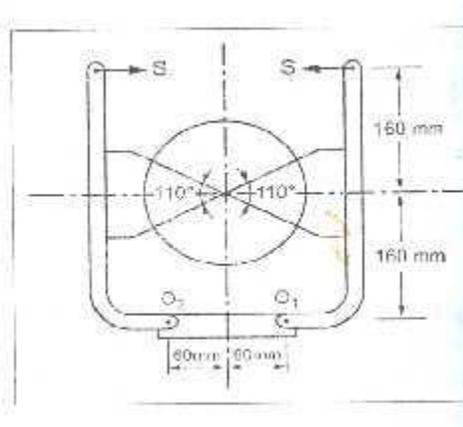

Figure: B4
2. The figure: B4 show the arrangement of two brake shoes which act on the internal surface of the brake drum. The width of brake lining is 35mm. The intensity of pressure at any point is $0.4 \sin\theta$ N/mm². The coefficient of friction is 0.4. Determine the braking torque and the magnitude of F_1 & F_2 .